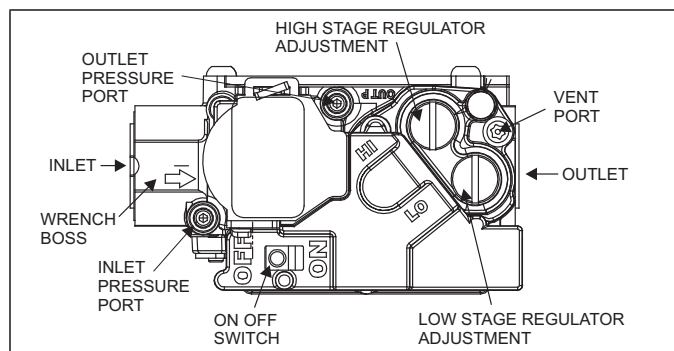

FIGURE 21: Gas Valve
Inlet and manifold gas pressure may be measured by connecting the "U" tube manometer to the gas valve with a piece of tubing. Follow the appropriate section in the instructions below. Refer to Figure 21 for a drawing of the locations of the pressure ports on the gas valve.
1. Refer to Figure 21 for location of pressure regulator adjustment cap and adjustment screws on main gas valve.